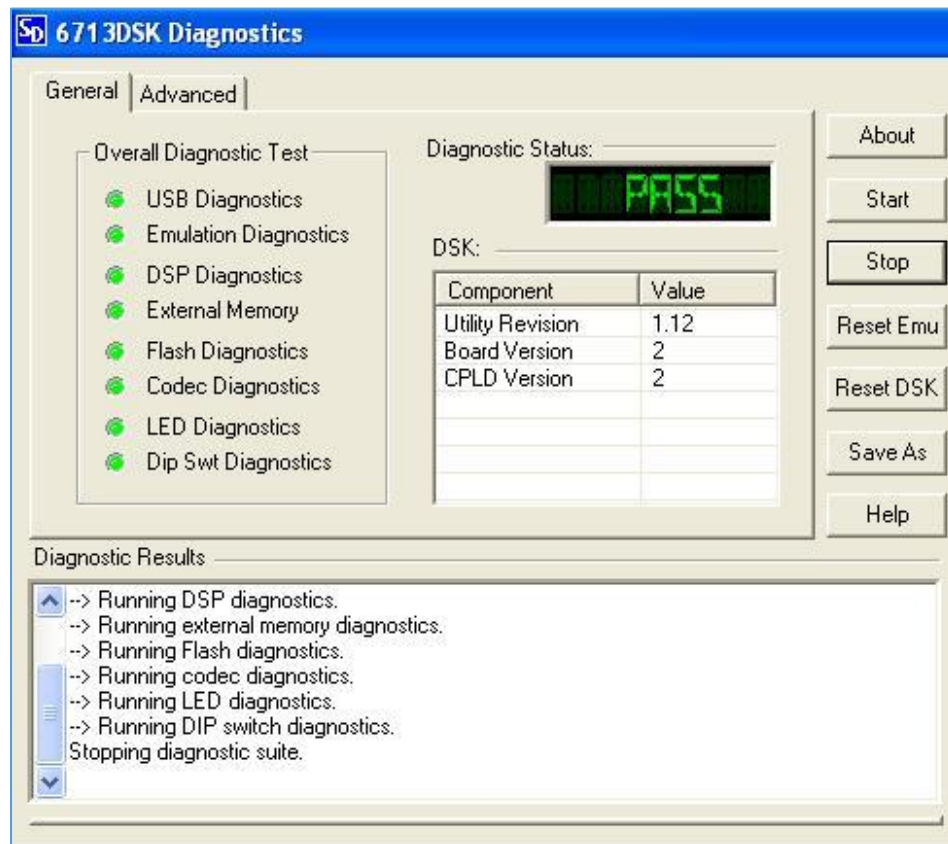

Figure 2.4
1. Run the **6713DSK** diagnostics as shown in Figure 2.4 to check the diagnostic status of DSP Board.